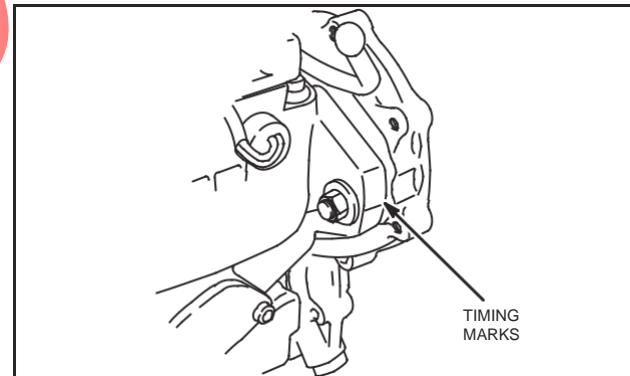

Fig. 17 – Install Injector Pump
4. Assemble injector pump to gear case with new O-ring and install nuts and support bracket screw finger tight, Fig. 17.